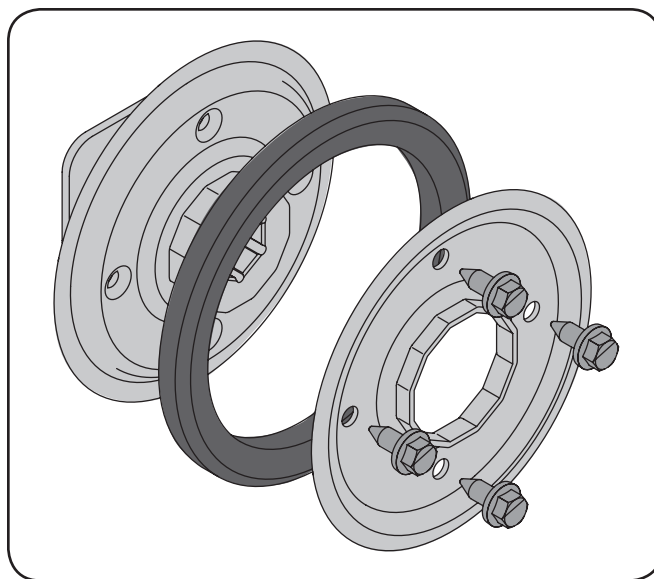

Figure 7-9
1. Remove the four screws which secure the friction wheel's side plates together. See Figure 7-9.